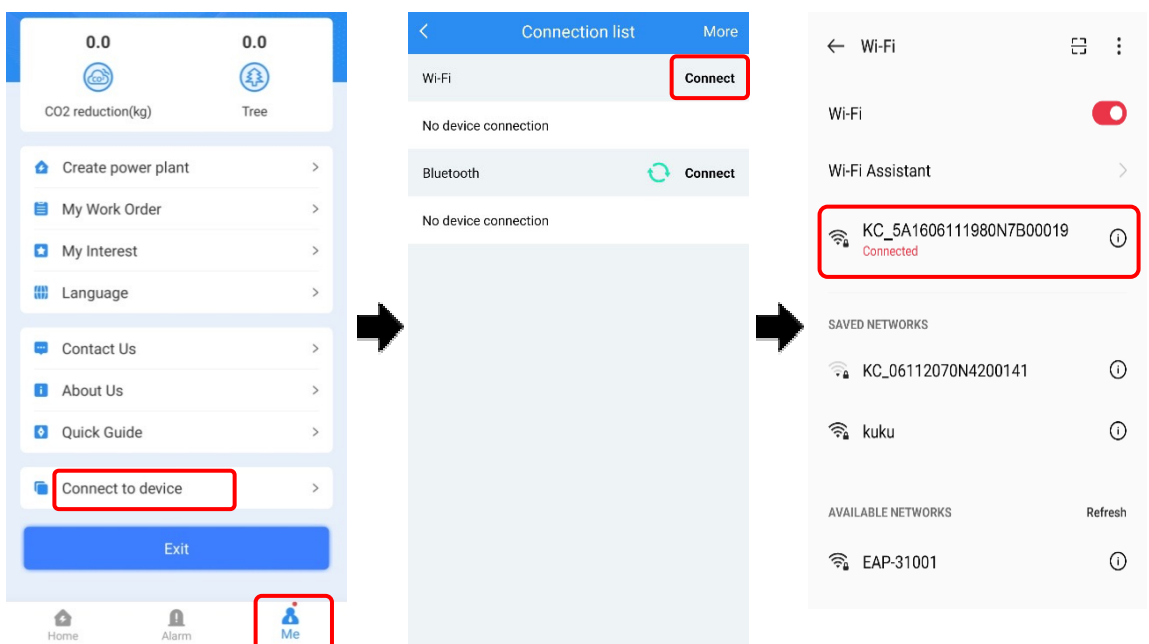

Figure3-35 Connect device
Step 6 Click "Me" icon in the main page, then click "Connect to device", and then click "Connect" at the top of the page, it will show the Wi-Fi list. Select the Wi-Fi whose name is the same as that of WIFI module, and then enter the default password: admin12345678, the WIFI module will be connected, as shown in Figure3-35.